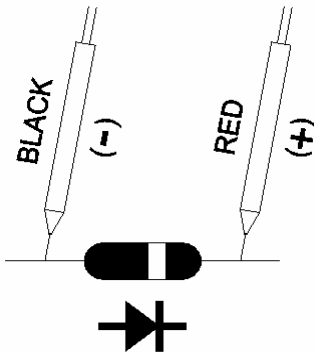

Fig.3
- b. When connected as shown in Fig. 3, a reverse check on the diode is made. If the diode under test is good, "----" will be displayed. If the diode under test is defective, "0.000" or other numbers will be displayed. Proper diode testing should include both steps a. and b. above.